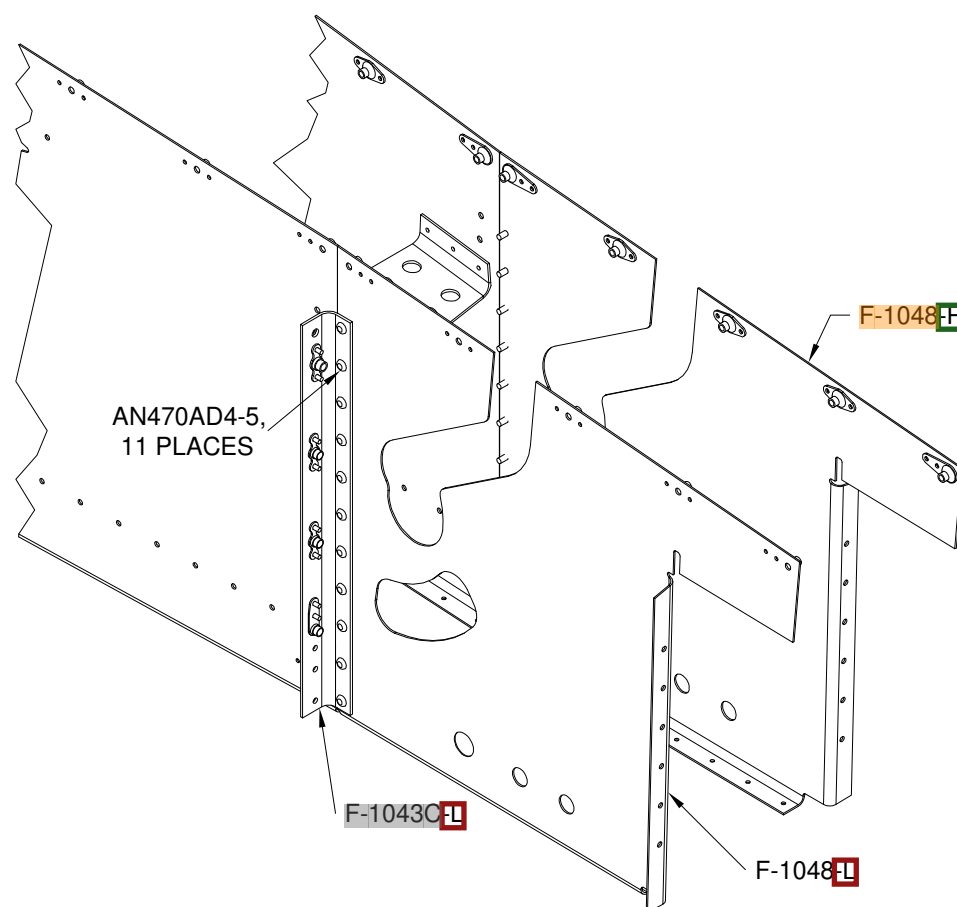

FIGURE 1: RIVET **F-1043C-L** & R TO **F-1048-L** & R
Step 2: Rivet nutplates to the **F-1043A-L** & R Fwd Fuselage Bulkheads as shown on Page 28-10, Figure 1.
Step 4: Rivet the **F-1043C-L** Attach Angle to the **F-1048-L** Forward Fuselage Rib as shown in Figure 1.